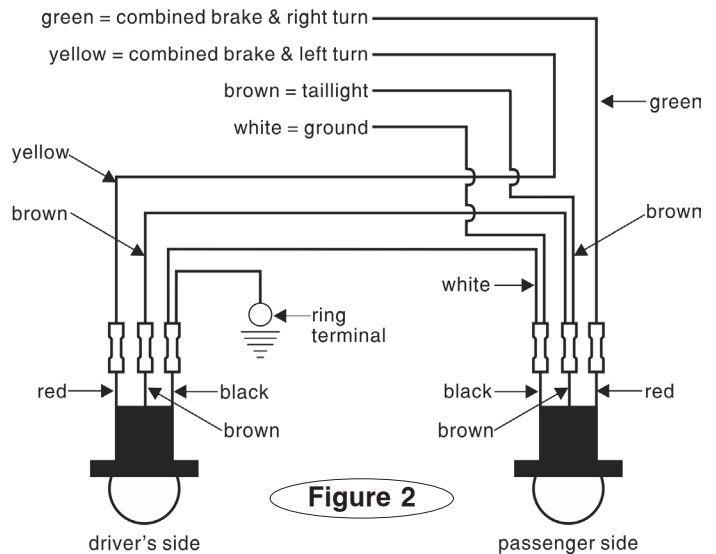

Figure 2
7. Use the butt connectors to attach the four-wire electrical harness to the sockets. Figure 2 is ROADMASTER's recommended wiring schematic.
8. Use one of the included ring terminals and the self-tapping screw to ground the towed vehicle, as shown in Figure 2.